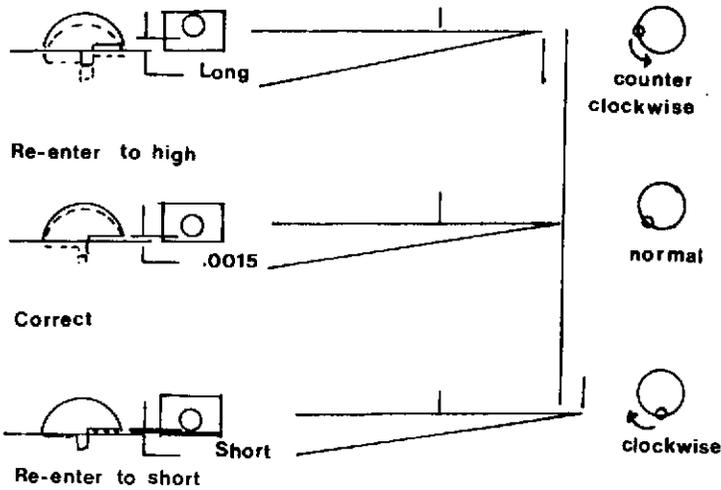

Figure 3-35. PULL DOWN STROKE SETTING
- (1). Adjust protrusion and if claw arm has been removed, set pivots as shown in Fig. 3-35.
- (2). Make a film loop using 3 feet of 16 mm registration film (SMPTE). Pull into the projector and project onto a suitable surface that can be marked.
- (3). Project FORWARD and make a reference line at any number on the vertical scale.